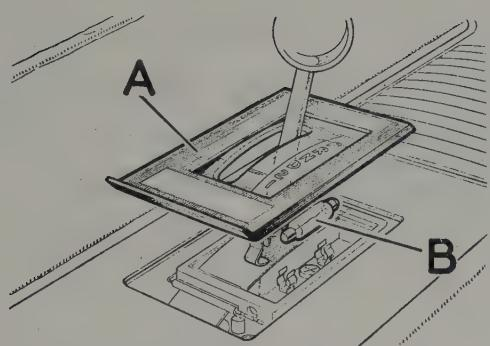

Fig. 10.31. Speed selector (auto. transmission) bulb renewal
- 1 Spring out the indicator plate "A" from the selector lever housing (Fig.10.31).